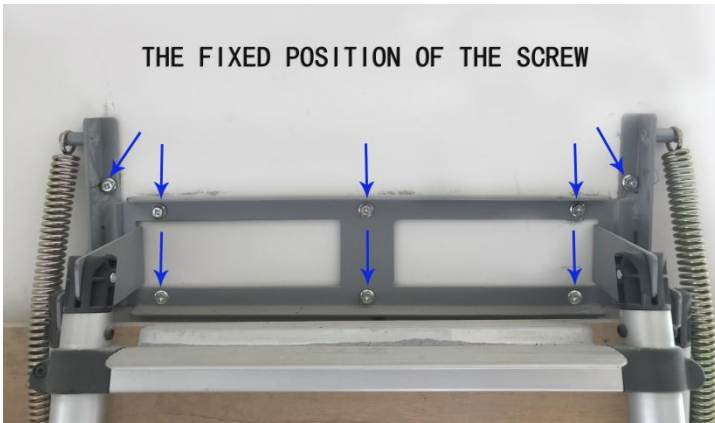

Figure 2
1. Fixed frame expansion wire fixed: the frame has the corresponding hole position, fixed with 6 screws(**Figure 2 arrow**), can be used.